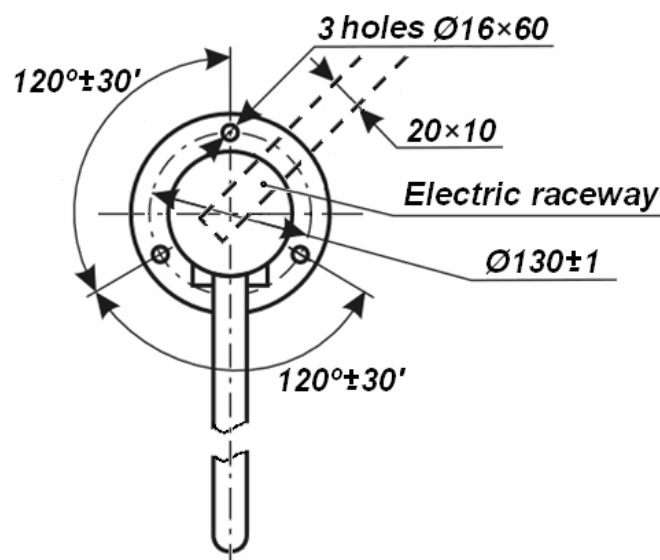

Figure 6 Mounting hole pattern
- to mark the mounting holes according to the enclosed mounting hole pattern (see Fig. 6);
2. verify the swing gate serial number on inner side of the cover (8) against the serial number in the warranty coupon;
4. prepare mounting holes according to the Figure 6;